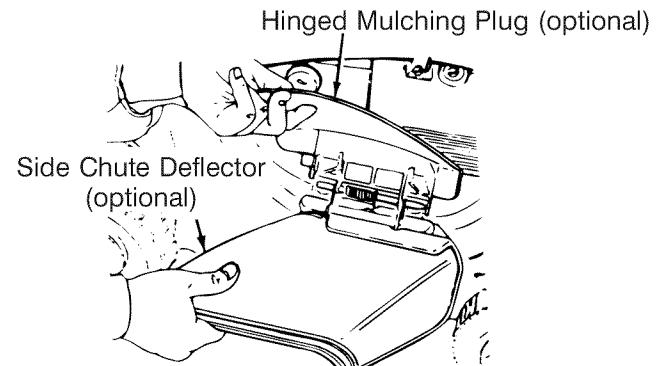

Figure 8
- On the side of the mower deck, lift the hinged mulching plug. See Figure 8.